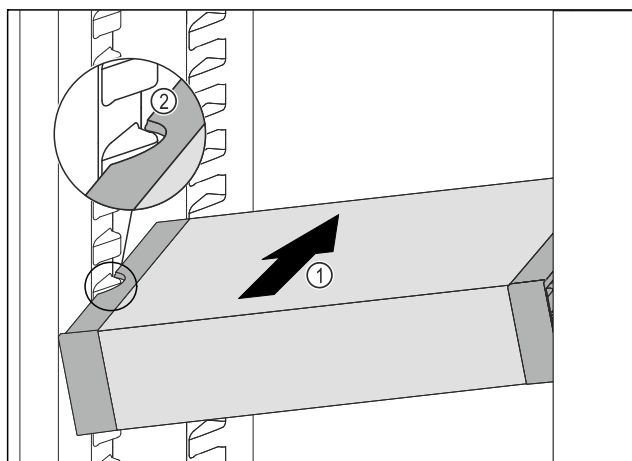

Fig. 83
- Insert the VarioSafe into the fridge section at an angle Fig. 83 (1) until the recesses in the side Fig. 83 (2) of the VarioSafe are at the level of the support rib in the fridge section.